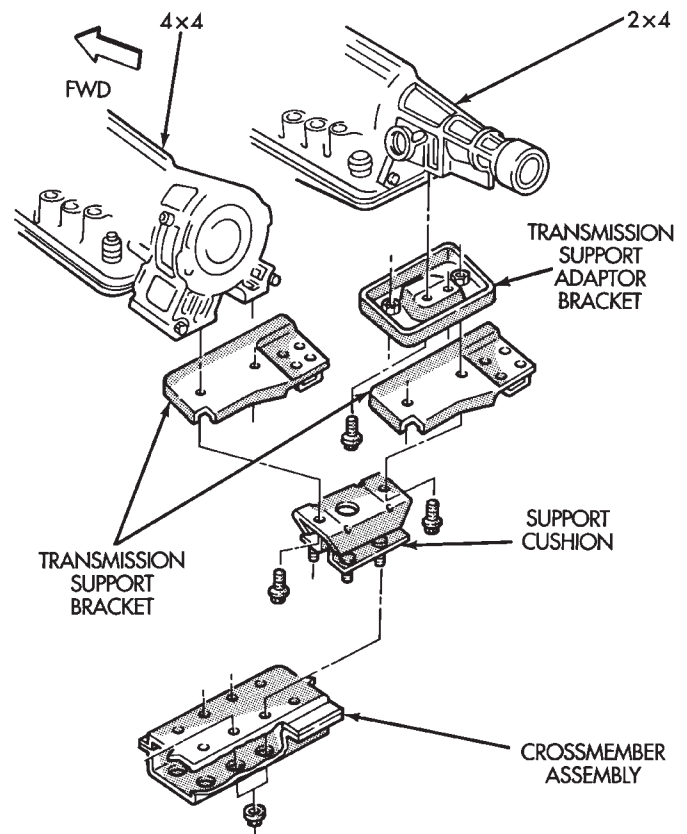

Fig. 10 Rear Mount—XJ Vehicles (Automatic Transmission)
- (5) **AUTOMATIC TRANSMISSION (Fig. 10):**
(b) On 2WD vehicles, remove the bolts holding the transmission support adaptor bracket to the transmission (Fig. 10). Remove the adaptor bracket.